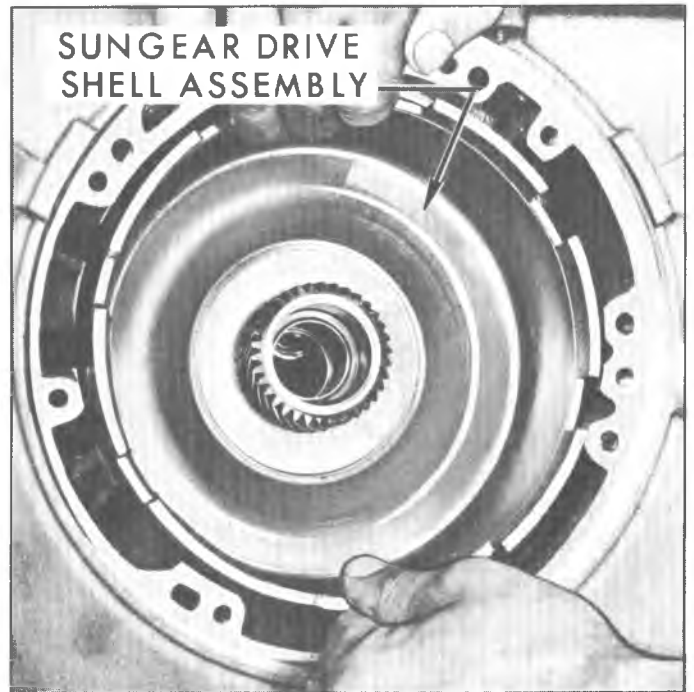

Fig. 37N--Removing Sun Gear Drive Shell
12. Remove sun gear drive shell assembly (fig. 37N).